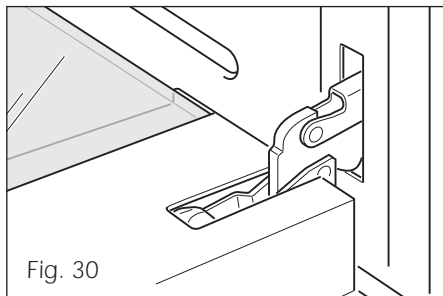

Fig. 30
- Fully open the oven door (fig. 30).
1. Make sure the door is locked open (see figs. 30, 31, 32).